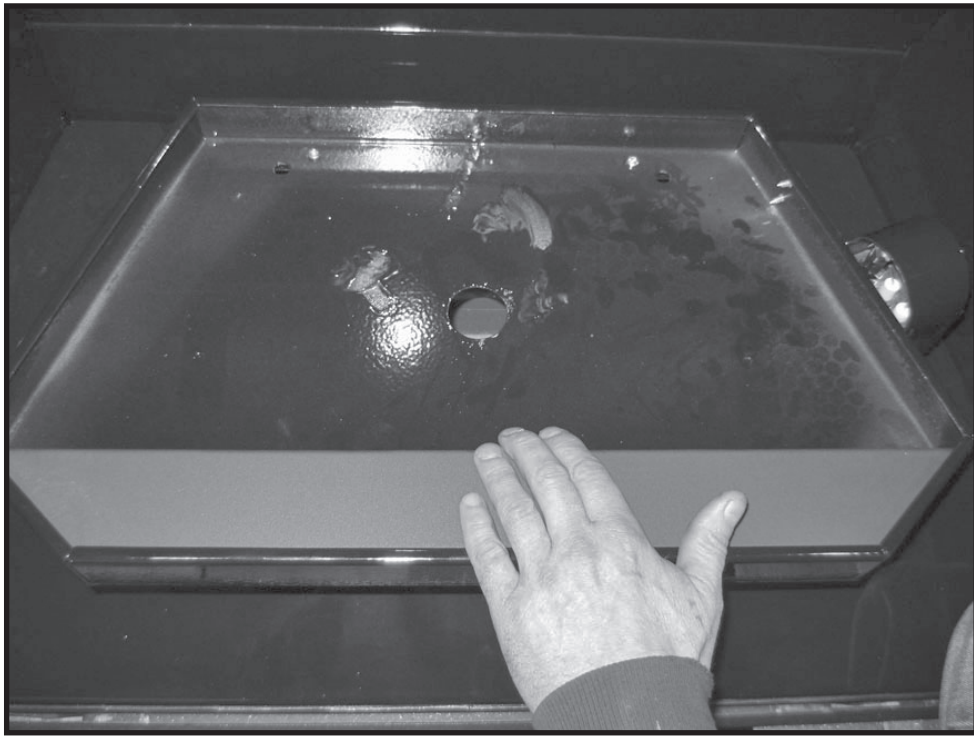

Figure 15: Installing front media spacer.
7. Install front media spacers (Figure 15).